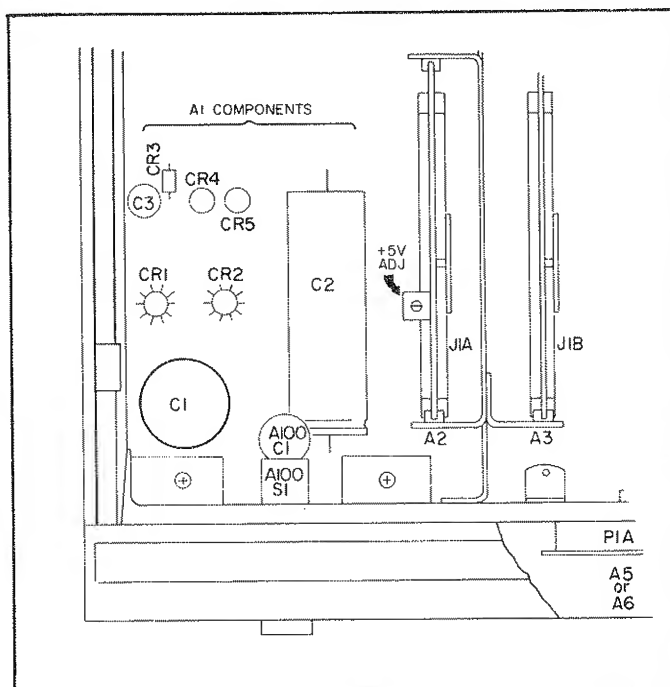

Figure 5-1. Five (5) Volt Adjustment.
- Adjust A2R1 to give a reading on the voltmeter of $+ 5 \text{ V} \pm 3\%$. This adjustment screw is shown in Figure 5-1.